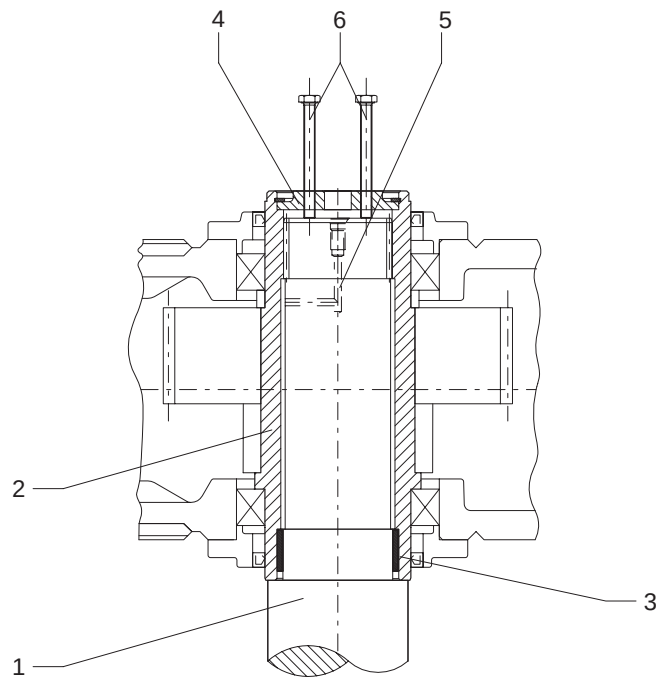

Fig. 6
- If frictional corrosion has formed on the seating surfaces, press rust-releasing or other agent (e.g. with a pump) into the bore cavity to reach the seats. The rust releaser is forced in through the bores in the machine shaft (see fig. 5) or end plate (fig. 6).
- Depending on the facilities available, the gear unit can be forced off the shaft on site using forcing screws in an end plate (see fig. 6), a central threaded spindle or a Lucas hydraulic lifting unit.